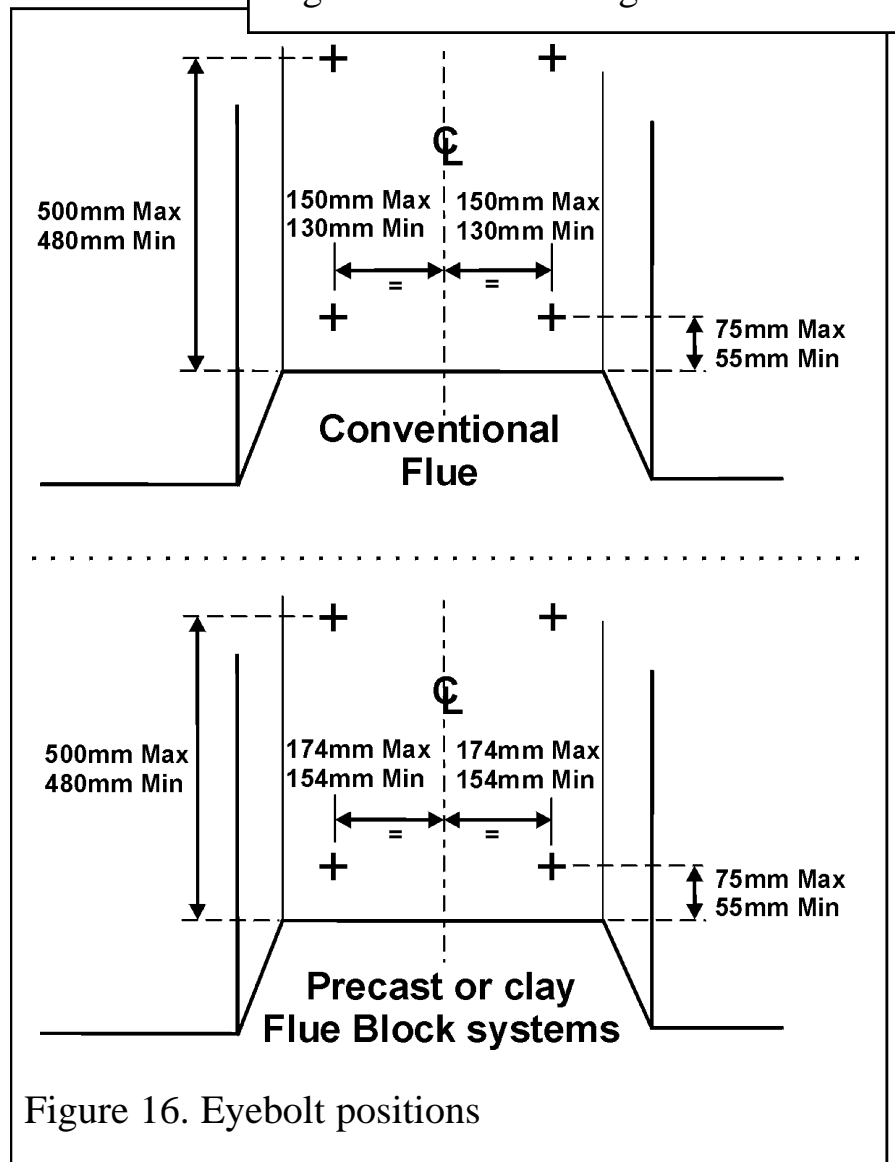

Figure 16. Eyebolt positions
2. Drill four holes in the rear wall of the fireplace for the eyebolt plugs. The holes should be drilled within the range of positions shown in figure 16 using a no.12 masonry drill. The holes should be equidistant each side of the centre line of the fireplace to ensure that the appliance finishes centrally in the opening when tension is applied to the cables.